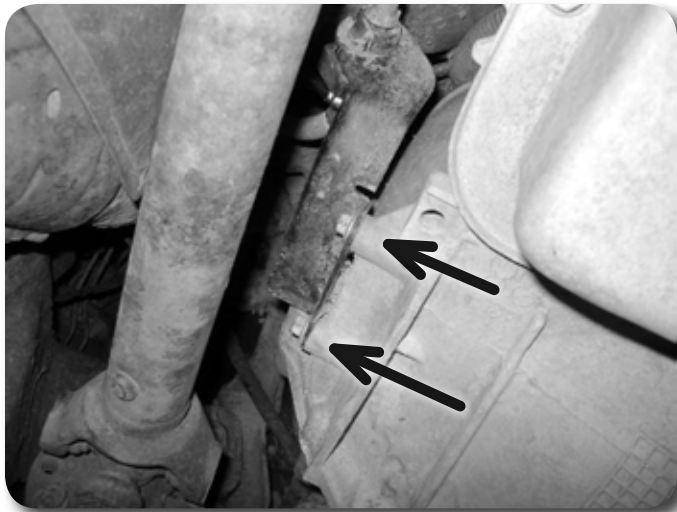
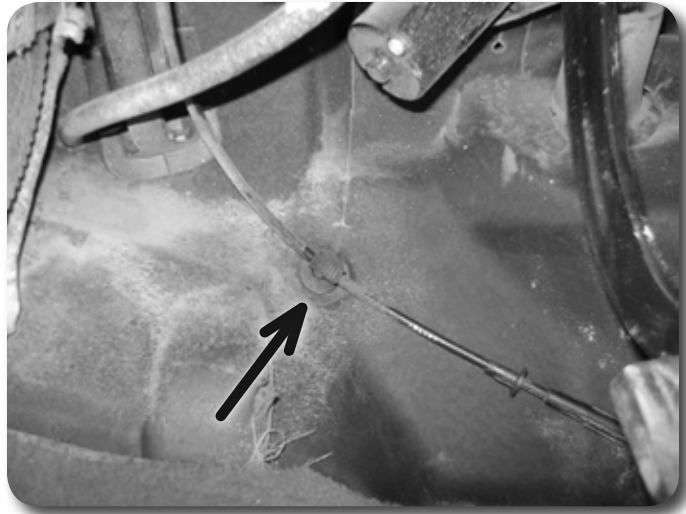

Figure 16A
Figure 16B
29. **Automatic Transmissions:** Remove the two bolts that mount the shift cable to the driver's side of the transmission. Save bolts. **Figure 16A** A relocation bracket will be attached after lifting. The 5.4 liter engine is equipped with a different transmission that does not use the relocation bracket. The cable for this transmission must be removed from the stud located under the dash and then slid through the floor of the cab. **Figure 16B**